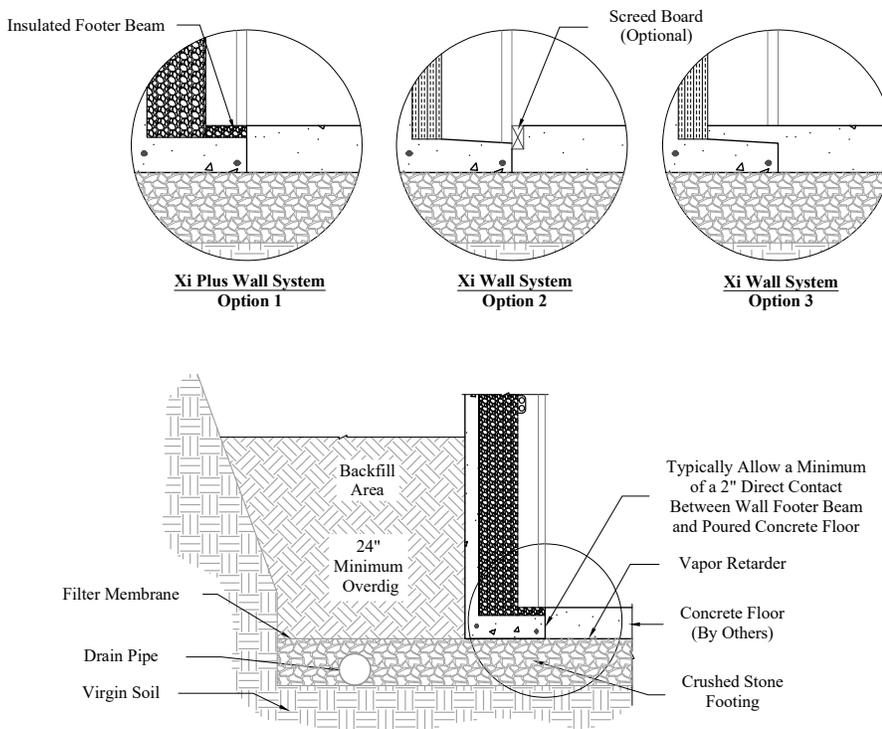

Figure 13
- For the Xi Plus Wall System, pour a 4" slab, using the upper edge of the insulated footer beam as a guide (See Figure 13 - Option 1).
- For the Xi Wall System, fasten a piece of lath at the desired height of the concrete floor to form a screed board (see Figure 13 - Option 2), **or** omit the screed board and allow concrete floor pour to flow between the stud cavities on top of the Superior Walls footer beam (See Figure 13 - Option 3).
- Typically allow a minimum of 2" (50 mm) direct contact between wall footer beam and poured concrete floor. (See Figure 13 below.)